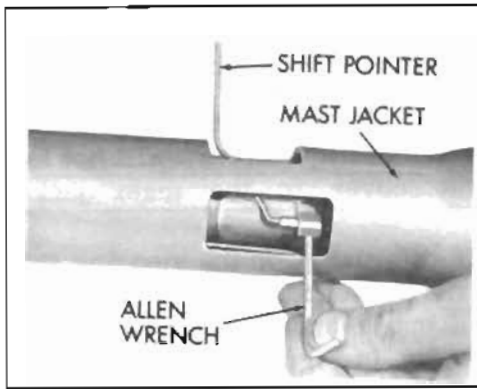

Figure 8-70—Removing Shift Pointer
6. Loosen set screw holding shift pointer to shift tube and slide out pointer. See Figure 8-70.